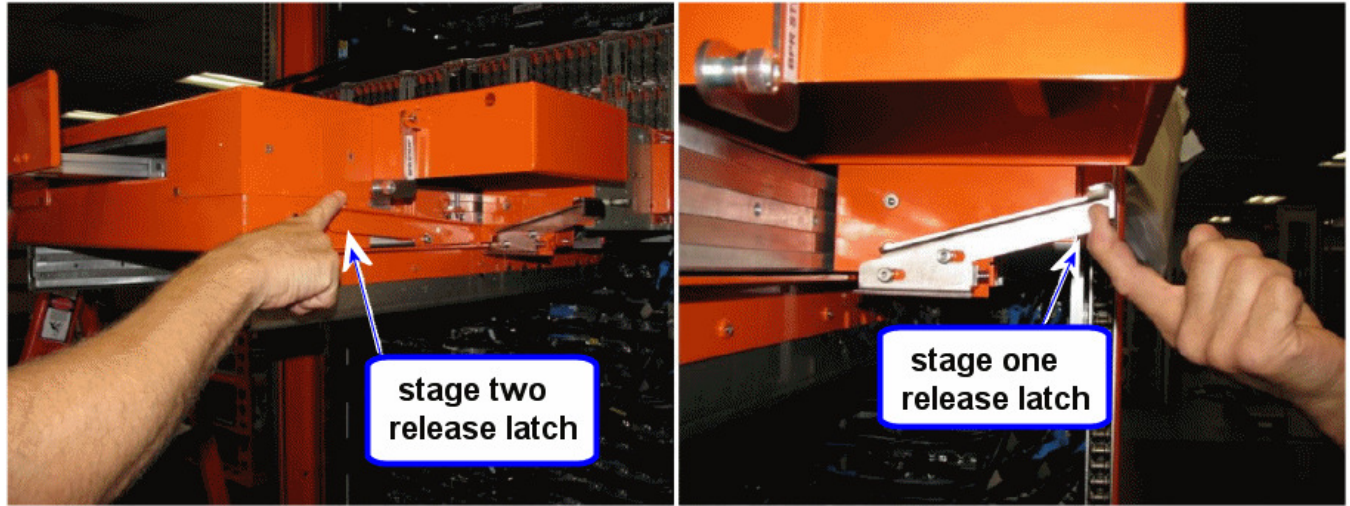
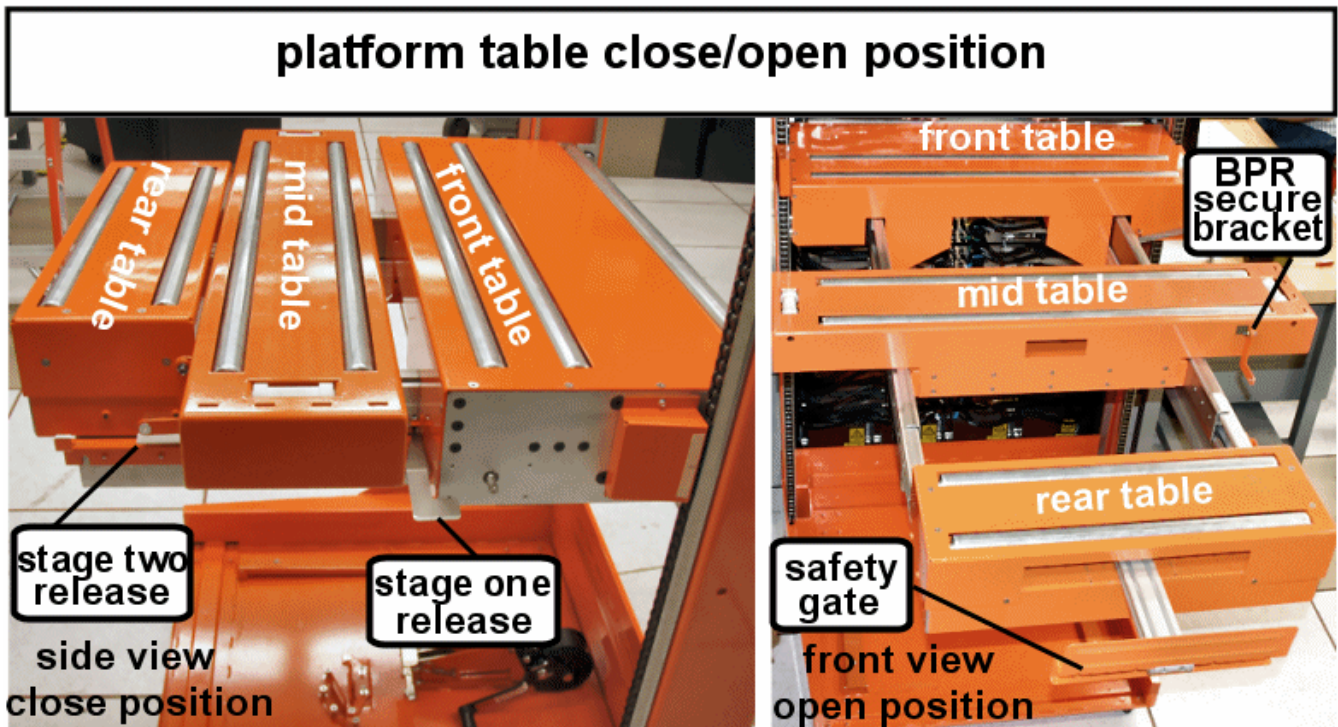

Figure 15 Slide mid and rear tables out by pressing the release latches
Figure 16 Lift Tool Platform Position
STEP 23 Push stage two release and slide rear table out until it locks into place, see Figure 15 for latch and see Figure 16 for final/open position of table.
STEP 24 Pull the stage one release and slide the Lift Tool mid table out until it locks into place, see Figure 15 for latch and see Figure 16 for final/open position of table.